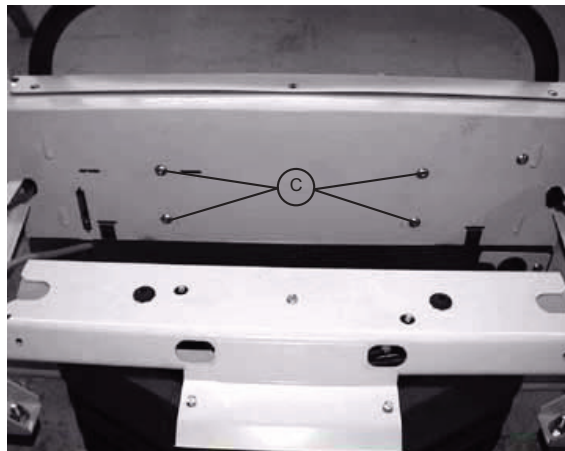

FIGURE 2
4. Using a 5/16" nut driver, remove the screw (A) holding the power cord clamp to the bumper weldment and remove the clamp from the bumper.
5. Using a T27 Torx, remove the four bolts (C) at the head end of the bed holding the control bar mounting bracket to the head end (see Figure 2).